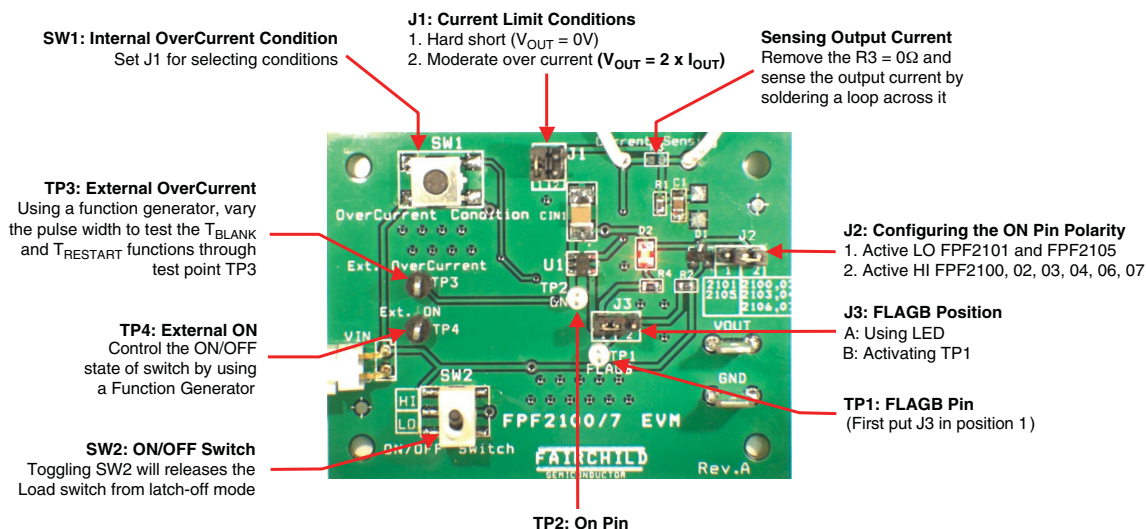

Figure 1. FPF2100/7 EVM Board
The FPF2100/7 board is an Evaluation Module (EVM) for the Fairchild Semiconductor FPF2100/1/2/3/4/5/6/7 smart load switches family. The FPF2100/7 family contains a 0.125Ω P-channel MOSFET with controlled turn-on, fast turn-off, thermal shutdown, under voltage lock out, and current limit. The current limit is guaranteed for 200 mA for the FPF2100/1/2/3 and 400 mA for the FPF2104/5/6/7. The operating voltage range is 1.8V to 5.5V. The EVM board provides access for monitoring all pins, and simulates the fault conditions as they might occur in a real application. This is accomplished by changing the states of the ON pin, input voltage, and output current and voltage. See Figure 1 page 2, for a detailed view of the board.
The status of the FLAGB pin can be monitored via TP1 either by probing directly the FLAGB pin or by lighting a small LED. For this purpose J3 needs to be set as shown in Figure 1. For parts without Auto-Restart the LED stays lit in current limit conditions until the SW2 switch is toggled. For parts with Auto-Restart the LED will light only as long as the pushbutton switch (SW1) is being held down.
- Using J2 for setting the ON pin polarity. Set J2 as shown in Figure 1.